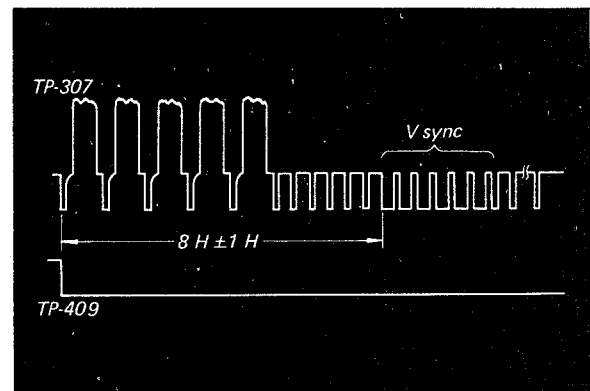

Fig. 7-4.
3. Adjust R411 on the SV4 Board so that the interval between the leading edge of vertical sync and leading edge of the 25 PG pulse is 8 H \pm 1 H as shown in Fig. 7-4.